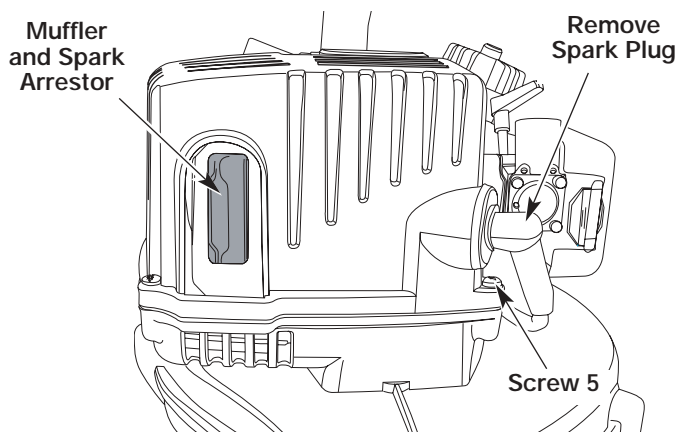

Fig. 12
1. The spark arrestor is located in the muffler, under the engine cover. When facing the unit from the front, the muffler and spark arrestor are positioned on the left hand side (Fig. 12).